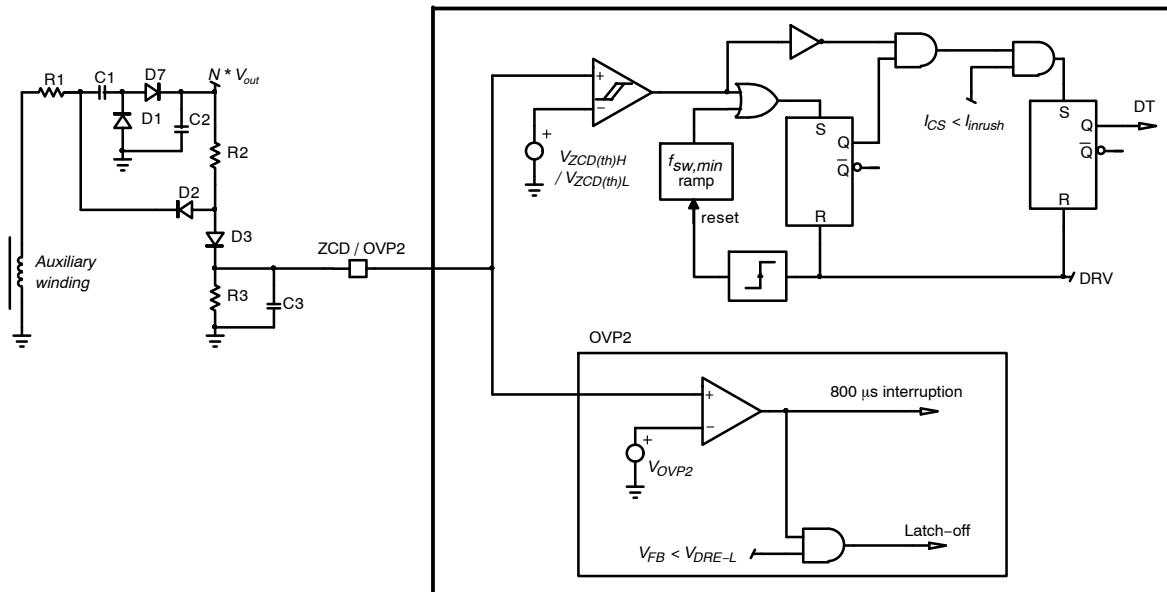

Figure 9. Zero Current Detection Block
Application note AND90011 (http://www.onsemi.com/pub_link/Collateral/AND90011-D.PDF) discusses recommended circuitries for an accurate ZCD and OVP2 detections. Figure 9 provides one of these circuitries. In this circuit, R_1 being small, capacitor C_1 is charged to
Figure 9 shows how the NCP1618 detects the valley.
- The ZCD pin impedance (for instance R_3 of Figure 9), must be higher than 7.5 k Ω not to trigger the ZCD pin short-to-ground protection.
If no ZCD can be detected when the circuit operates in FCCrM mode, the circuit cannot use the valley detection to start a new current cycle. In this case, the next DRV pulse is forced by the DCM minimum frequency ramp ($f_{sw,min}$ ramp of Figure 9) which acts as a watchdog.
- If the pin is grounded, no falling edge of the auxiliary winding can be detected. The DRV remains off until the DCM minimum frequency ramp initiates a new cycle. Before the new pulse is generated, the circuit senses the pin impedance by sourcing 250 μA . No DRV pulses are generated until the pin voltage exceeds V_{ZCDH} . Hence, the part is inhibited when the pin is grounded. Not to trigger this protection, the pin impedance (for instance R_3 of Figure 9. must be higher than 7.5 k Ω).
The ZCD signal is compared to V_{OVP2} (4 V typically). If V_{ZCD} exceeds V_{OVP2} , the PFC stage stops operating for 800 μs . In addition, if when an OVP2 fault is detected, the dynamic response enhancer is engaged (indicating that too low an output voltage is sensed by the feedback pin), the circuit detects that one of two networks for output voltage sensing is wrong. As a consequence, the circuit latches off. See Figure 9.